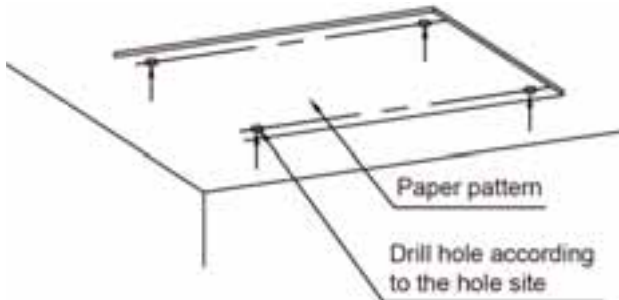

Fig 4.1.3
- 1) Attach the cardboard template on the installation position. Drill 4 holes according to the cardboard as shown in Fig. 4.1.3. The diameter of hole should match the diameter